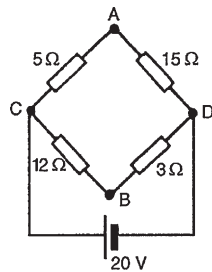

Figure 13.34
- (vii) To find the voltage across  $AB$  in Fig. 13.34: since the  $20\ \text{V}$  supply is across the  $5\ \Omega$  and  $15\ \Omega$  resistors in series then, by voltage division, the voltage drop across  $AC$ ,